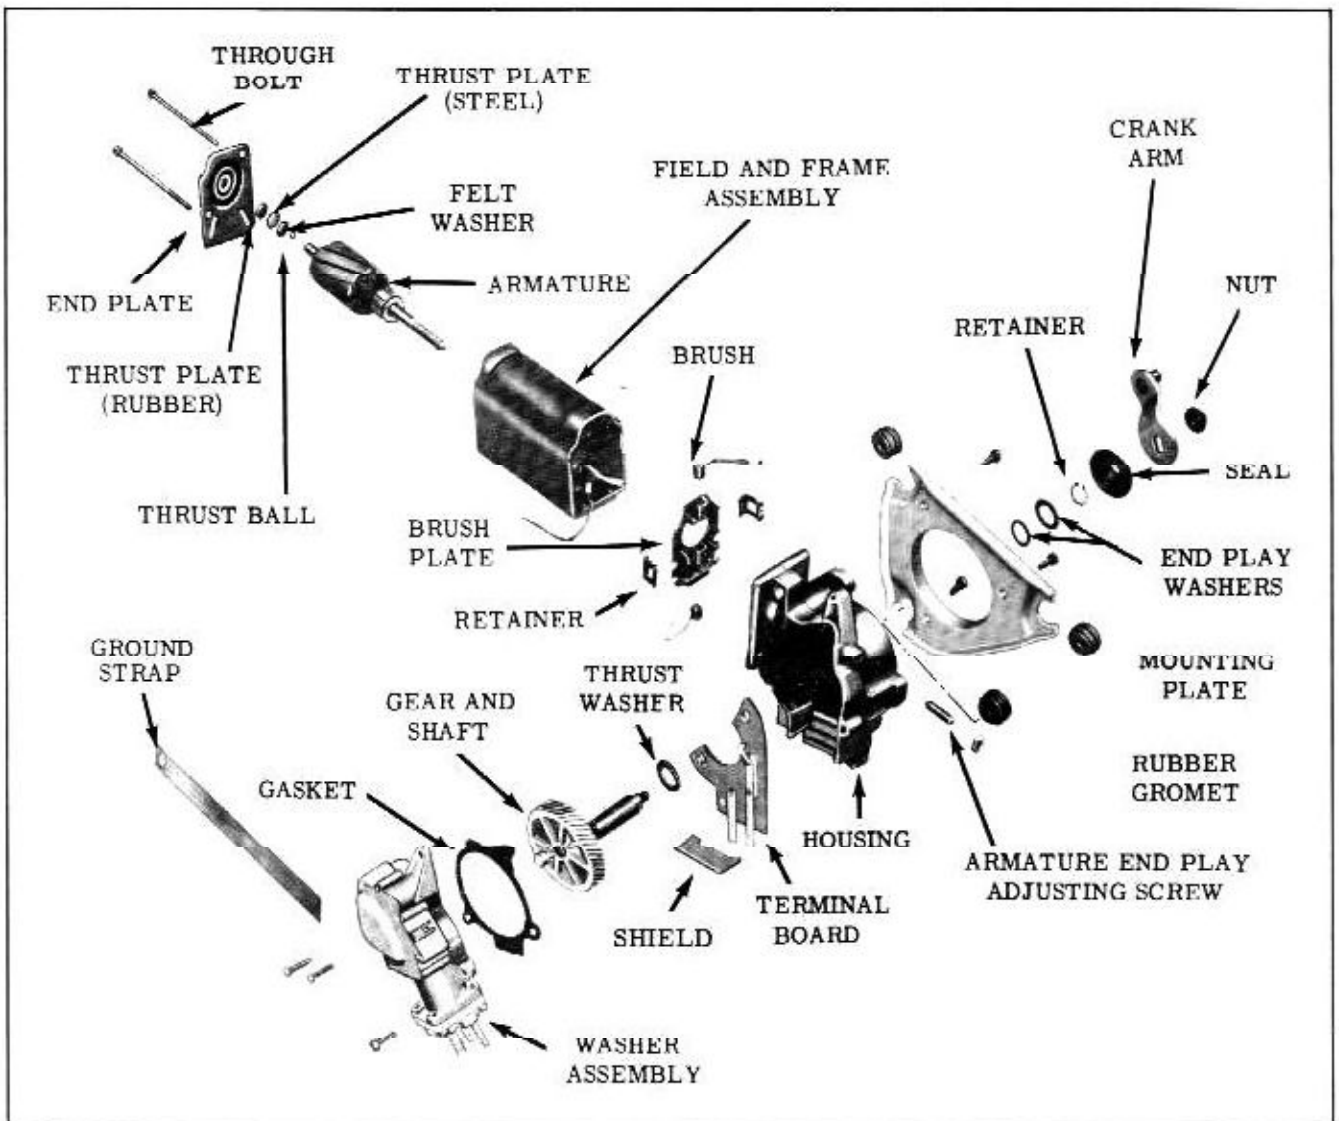

Fig. 13-118 Wiper Motor Assembly
1. Mark end of shaft and crank arm to facilitate correct reassembly. (Fig. 13-118)